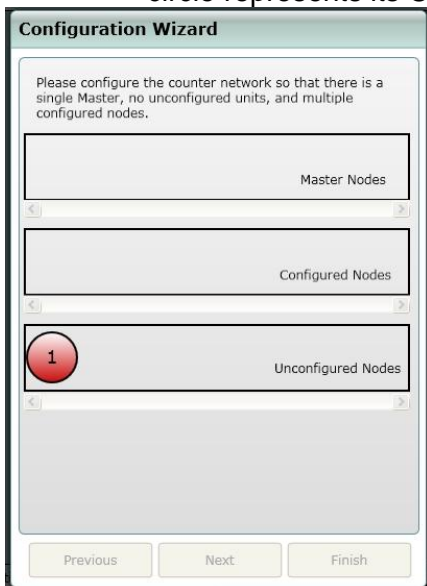

Figure 9
5. Press Next and you will be presented with a screen detailing Master Nodes, Configured Nodes and Unconfigured Nodes. Click and drag the red circle for your sensor to the Master Nodes section; the number on the circle represents its Comms ID. See Figure 9 & 10 below for illustration.